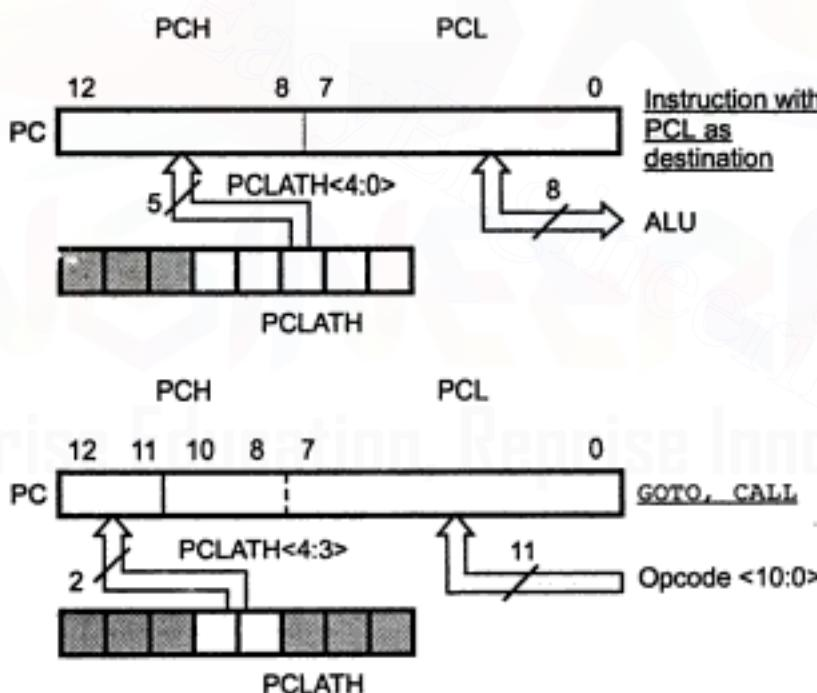

Fig. 18.5 Loading of PC in different situations
The program counter (PC) is 13-bits wide. The low byte comes from the PCL register, which is a readable and writable register. The upper bits (PC<12:8>) are not readable, but are indirectly writable through the PCLATH register. On any reset, the upper bits of the PC will be cleared. Fig. 18.5 shows the two situations for the loading of the PC. The upper example in the Fig. shows how the PC is loaded on a write to (PCLATH <4:0> → PCH). The lower example in the figure shows how the PC is loaded during a CALL or GOTO instruction (PCLATH<4:3> → PCH).